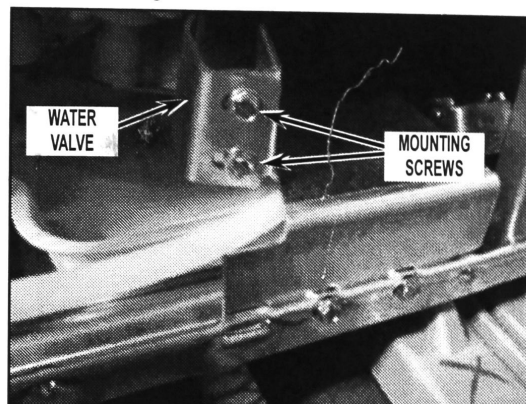

FIGURE 3
9. Mount water valve to mounting bracket using (2) mounting screws. See *Figure 3*.